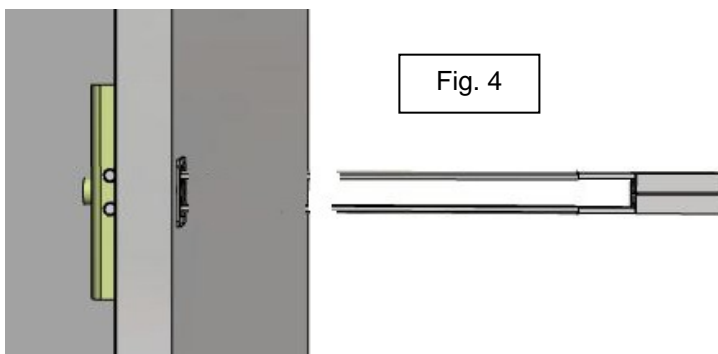

Fig. 4
3. Cut or snap straps at wall by pushing side to side, snapping off straps level with flange of cap. Fig. 4